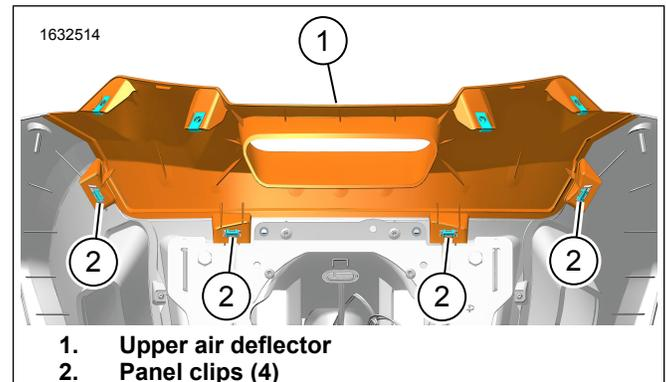

Figure 3. Front View Of Upper Air Deflector
1. See Figure 3. Remove and discard Original Equipment (OE) upper air deflector (1).
- a. Release two outer panel clips (2).
- b. Pull on upper air deflector (1) straight back to release inner clips.
2. Inspect OE panel clips (2).